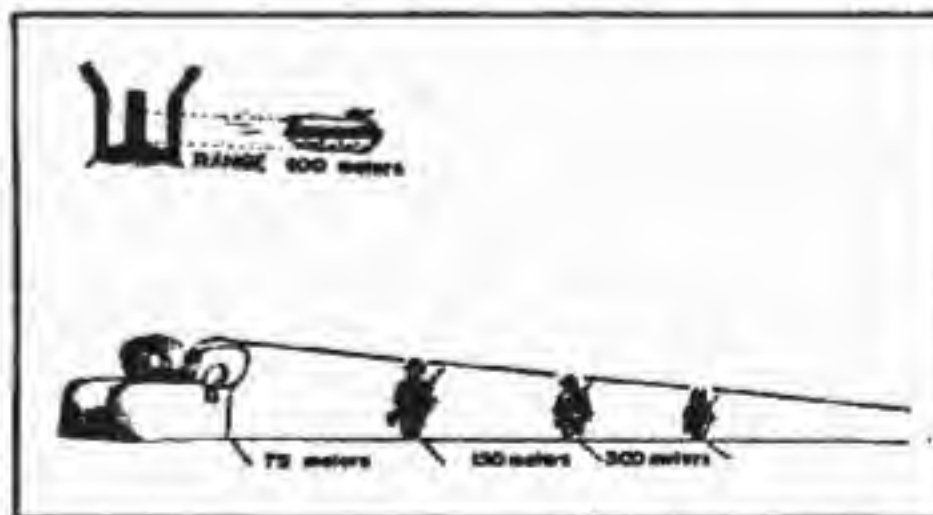

Figure 1
- Range determination and the M14 (Figure 1) - A new expedient method for the rifleman to determine range with his weapon works on the principles of stadia. The stadiometric ranging method of determining distance depends on solving the triangle established by the angle subtended at the observer's position by an object of known size. The main requirement is for the firer to get firmly established in his mind what a length of one meter looks like. For instance, all men measure about 1 meter from top of head to crotch. This distance is also the size of the E-type silhouette. The average doorway of a house is twice 1 meter high (2 meters) as is the armored personnel carrier.